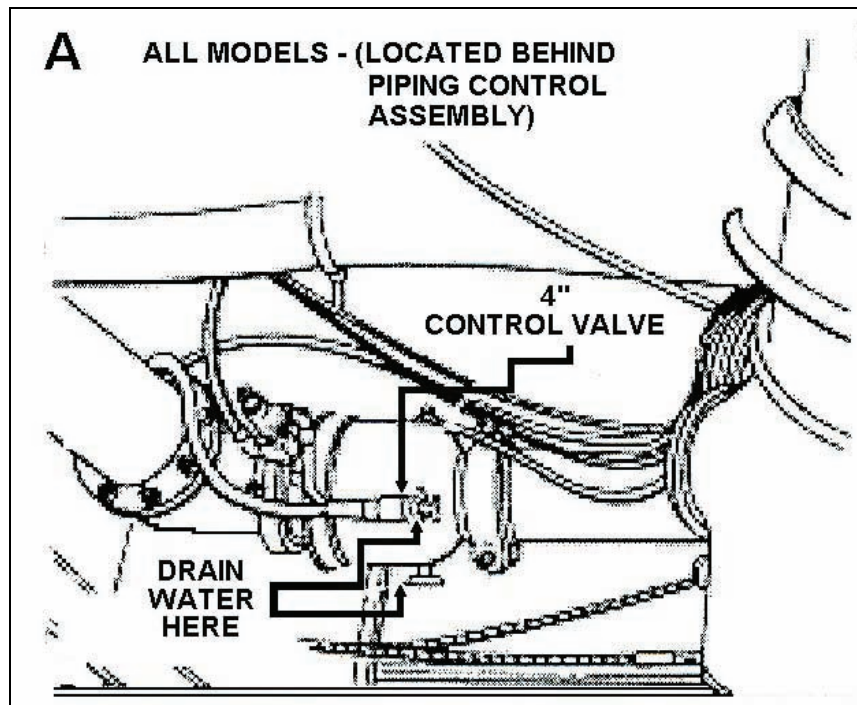

Figure 3-34a. Pilot Line Water Drains-1
- (13) At the end of operation, idle down the engine.
- (14) Close all valves (see Figures 3-34a, 3-34b, and 3-35).
- (15) Disconnect the 4-inch bulk fuel hose and put in the hose trough. Secure the hose trough latches.
- (16) Stop the engine.
- (17) Drain accumulated water in the same manner as with top loading.
- (18) Remove the ground wires.
- (19) Recover and stow fire extinguishers.